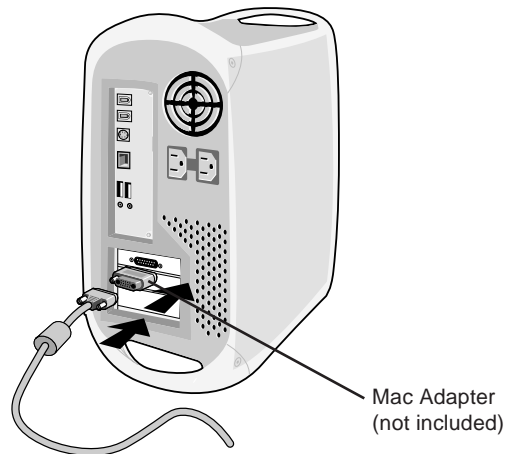

Figure B.1
**For the Mac:** Connect the Macintosh cable adapter (not included) to the computer (**Figure B.1**). Attach one end of the signal cable to the Macintosh cable adapter (**Figure B.1**).